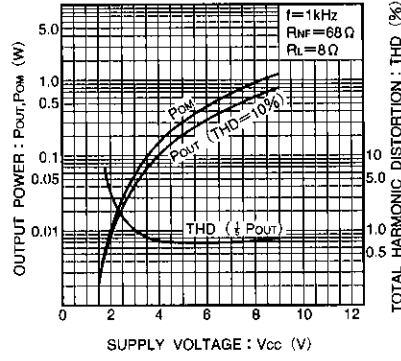

Fig. 2 Rated and max. output power and total harmonic distortion vs. supply voltage
- 1) High output. P_{OUT} = 330mW (V_{CC} = 6V and an 8 Ω load (THD = 10%)). See Fig. 2.